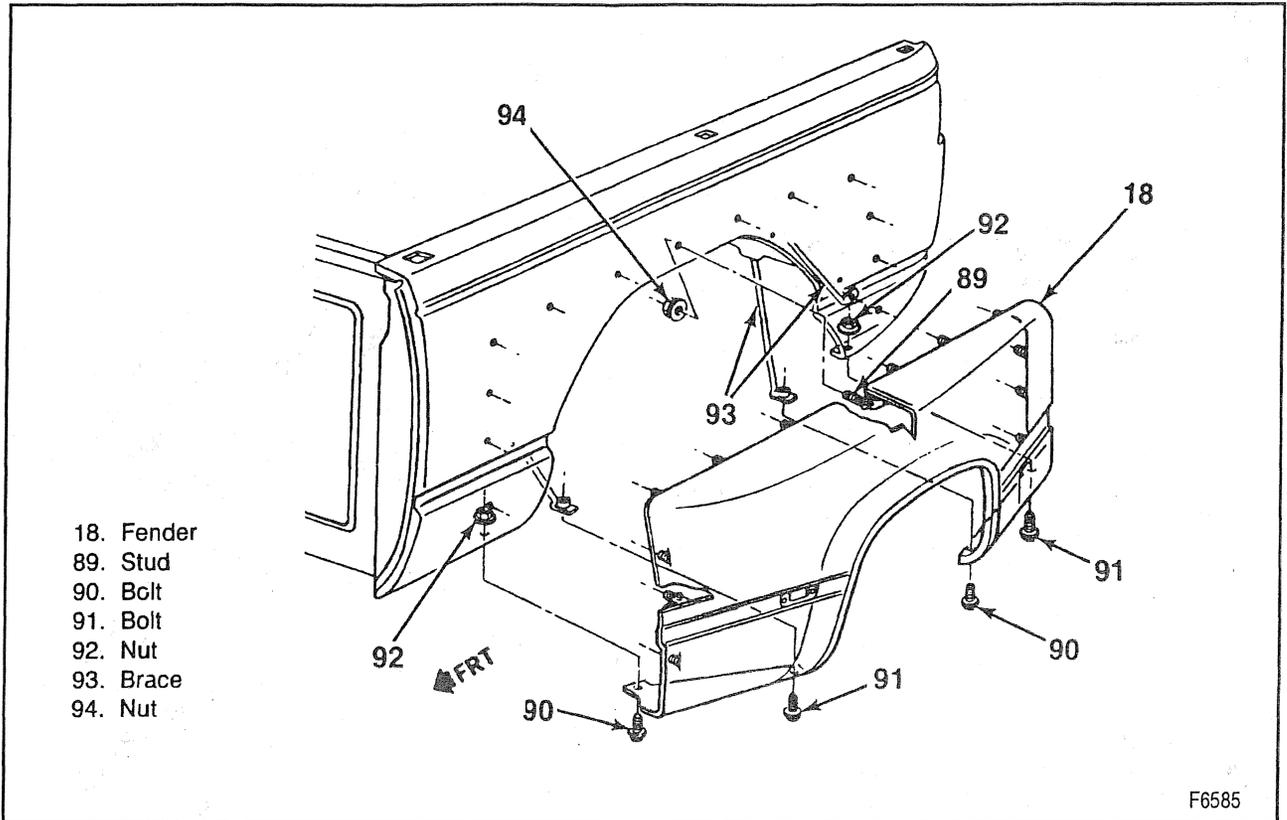

Figure 16—Rear Fender (Dual Wheel)
**Remove or Disconnect (Figure 16)**